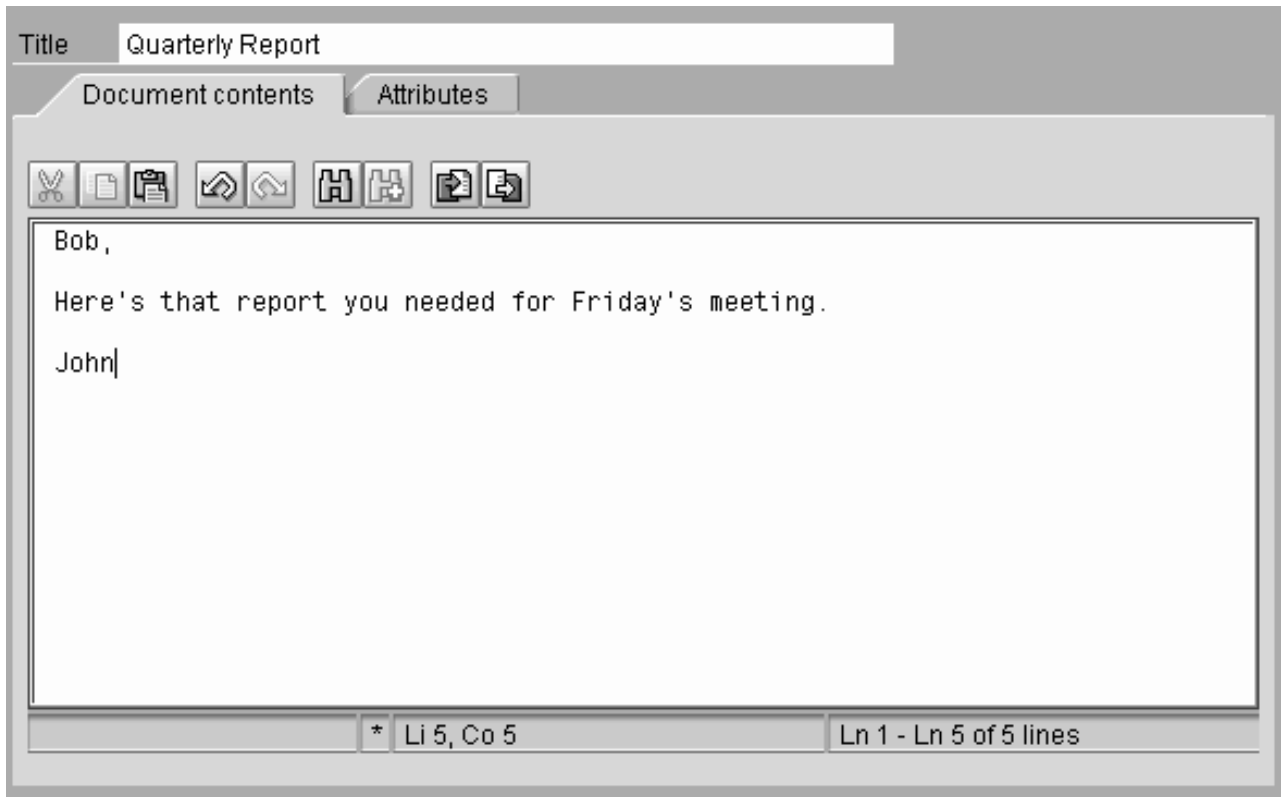

Figure 46. Create Document window
5. From the **Create Document** pop-up dialog, access the **Documents contents** tab and type in your message (see Figure 46):